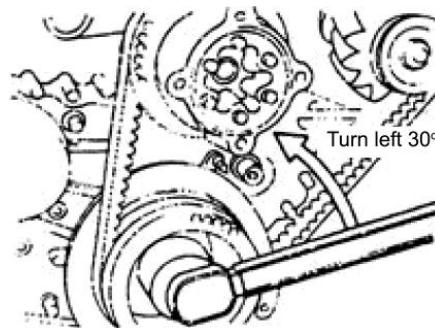

Fig.1.16
(2) Put the 1st cylinder to the TDC position, turn the crank shaft about 30° counterclockwise, See Fig1.16.